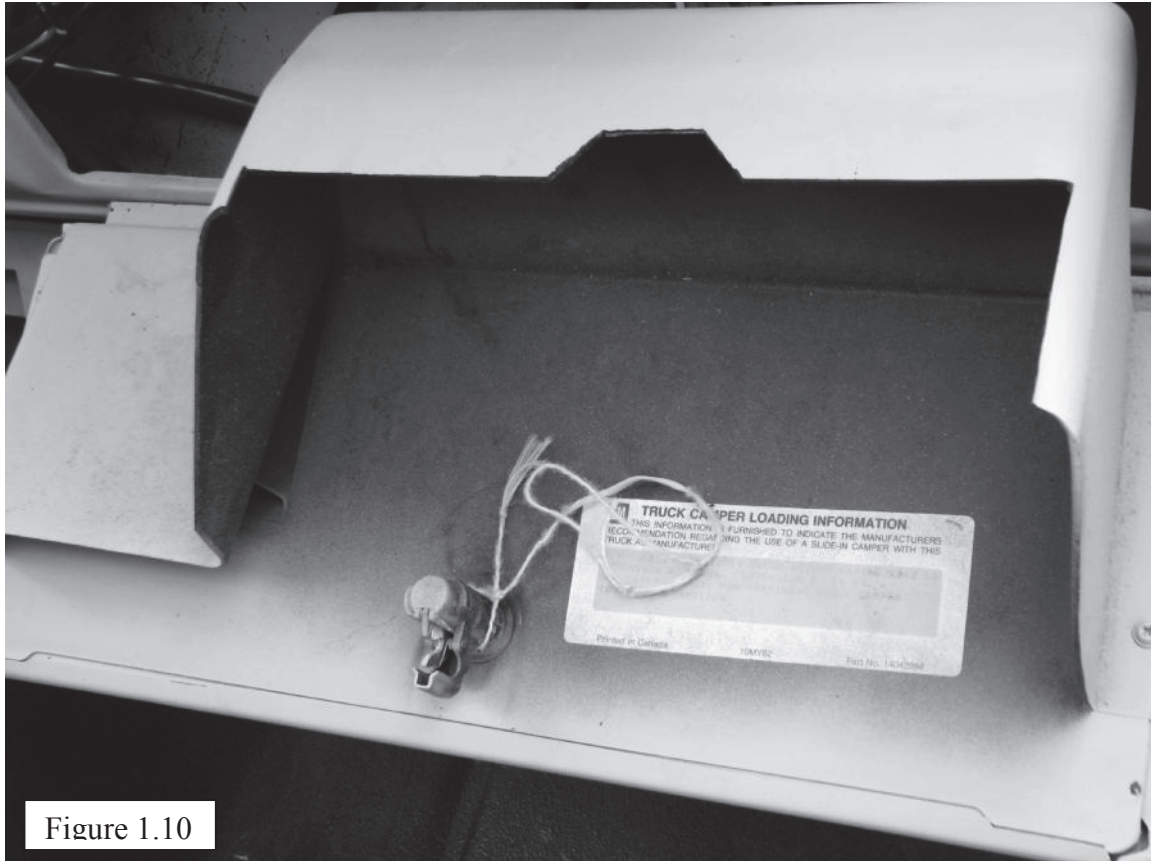

Figure 1.10
- 33) The final step is trimming the glove box. You will need to trim the glove box to clear evaporator housing. We found it easier to close the glove and see where it hits, then trim it as necessary to get it closed. By trimming a little at a time it will allow you to minimize the amount cut out of the glove box. Figure 1.10